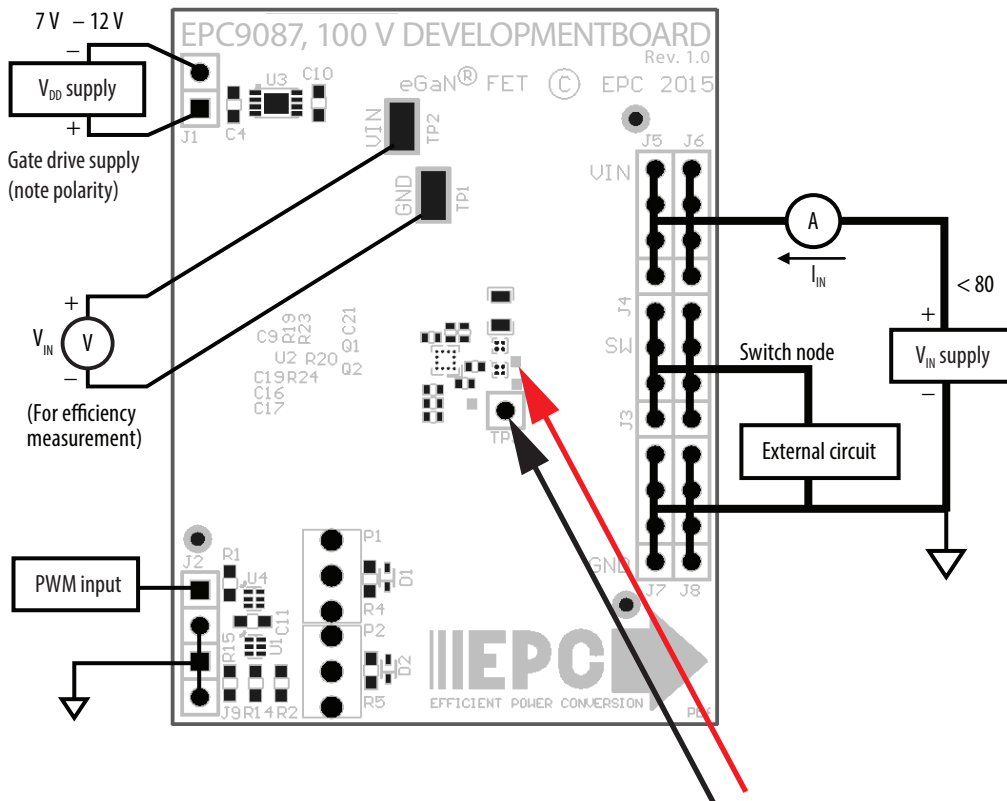

Figure 2: Proper measurement of the switch nodes.
Development board EPC9087 is easy to set up to evaluate the performance of the EPC2037 eGaN FET. Refer to figure 2 for proper connect and measurement setup and follow the procedure below:
2. With power off, connect the switch node (SW) of the half bridge OUT (J3, J4) to your circuit as required (half bridge configuration).
3. With power off, connect the gate drive input power to +V_{DD} (J1) and ground return to -V_{DD} (J1) as shown in figure 2.
4. With power off, connect the input PWM control signal to PWM (J2) and ground return (J2) as shown in figure 2.